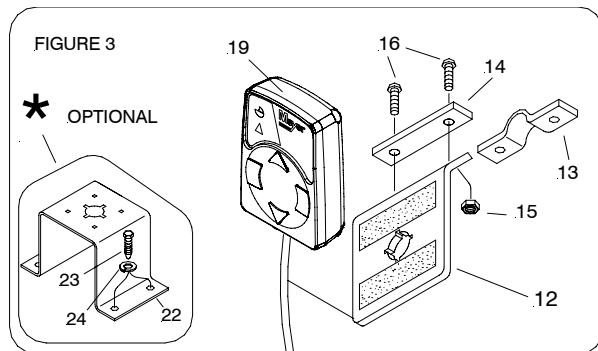

Figure 3
- D. Install Male Plug (7) through the vehicle grill.
- E. Choose a convenient location for the control switch. If the desired location is the dashboard, install Bracket (12) by drilling 2 holes in the dashboard and secure using Round Head Machine Screws (16) and Locknuts (15). Install Backup Plate (14) behind dash for added stiffness. See Figure 3. Also apply Danger Decal to dashboard.
- F. To mount control to shift lever, use Bracket (12), Clamp Plate (13), Round Head Machine Screws (16) and locknuts (15). See Figure 3.
- H. Use Bushing (18) where Harness (7) is routed through firewall and radiator support panel. Requires 7/8" diameter hole. Be certain to route all wiring around hot or moving engine parts, and any sharp sheet metal. Protection must be provided to guard against wire damage at these points. All excess or loose wire must be neatly secured using wire ties. Fused lead from Wiring Harness (7) must be attached to terminal in fuse panel that is activated only when the ignition key is "on."
- I. Install Starter Solenoid (2) to metal surface in engine compartment using Screws (17). (Solenoid must be grounded to operate). Attach Red Power Cable (7) to a large terminal on Starter Solenoid (2). Attach Black Ground Cable (7) to negative (-) terminal of battery. Attach 36" Power Cable (10) to positive (+) terminal of battery and remaining large terminal on Starter Solenoid (2). Attach small white wire from harness (7) to small terminal on Starter Solenoid (2).